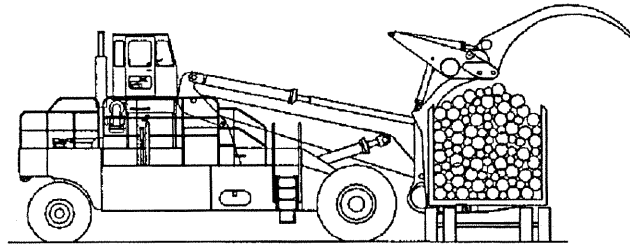

Fig 4-3
2. Move in until the back of the carriage is against the load. Partially clamp the load to prevent logs from rolling off. See Fig. 4-3